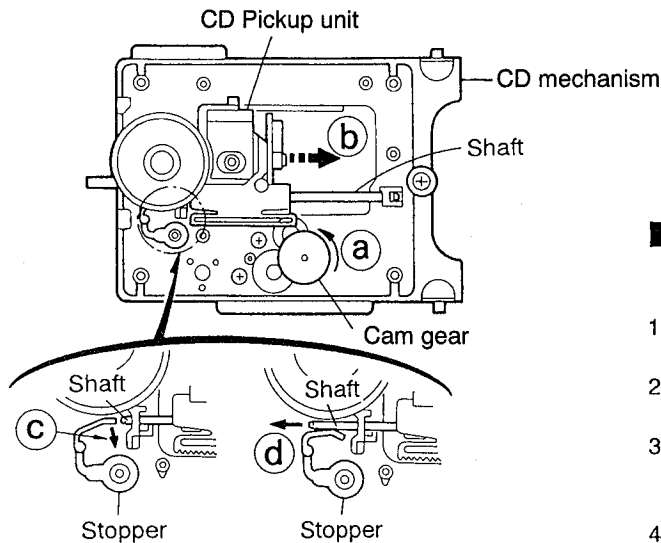

Fig.5-47
## ■ Removing the CD pickup unit (See Fig.5-47)
1. Move the cam gear in the arrow direction ①. Then, the CD pickup unit will be moved in the arrow direction ②.
2. According to the above step, shift the CD pickup unit to the center position (See Fig.5-47).
3. While pressing the stopper retaining the shaft in the arrow direction ③, pull out the shaft in the arrow direction ④ (See Fig.5-47).